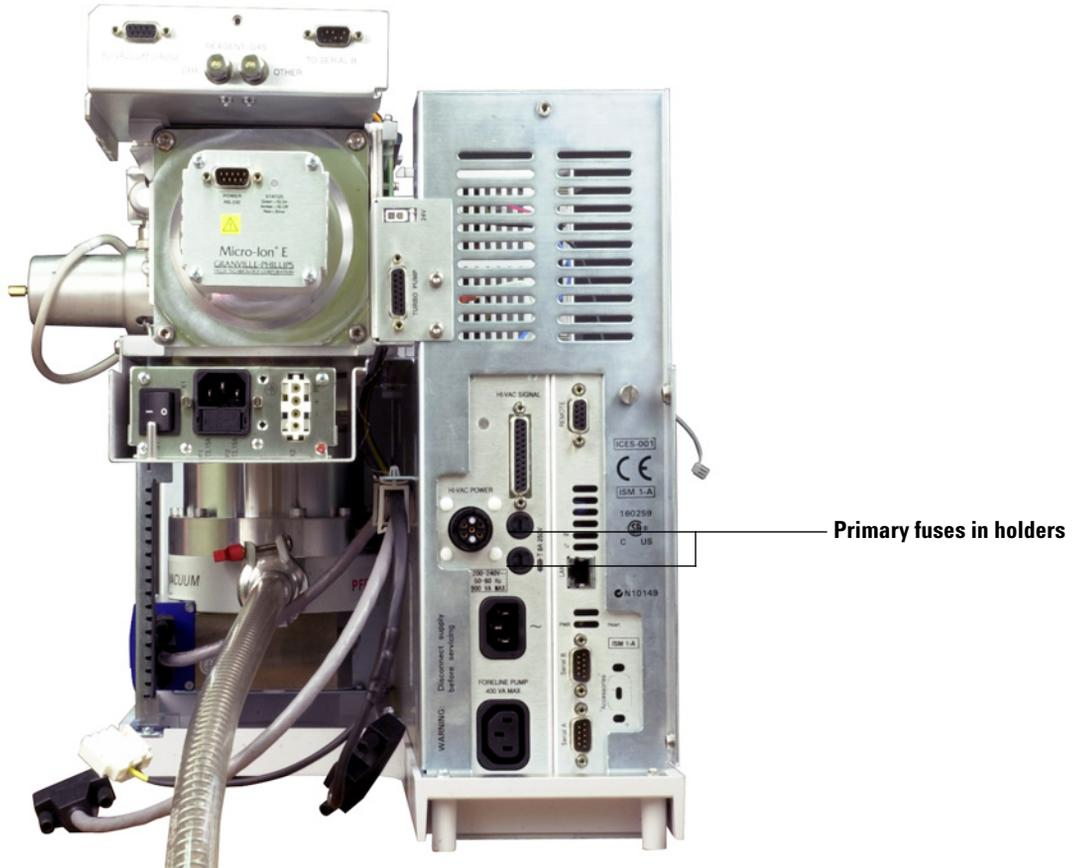

Figure 25 Primary fuses (turbo model shown)
- 2 Turn one of the fuse holders (Figure 25) counterclockwise until it pops out. The fuse holders are spring loaded.